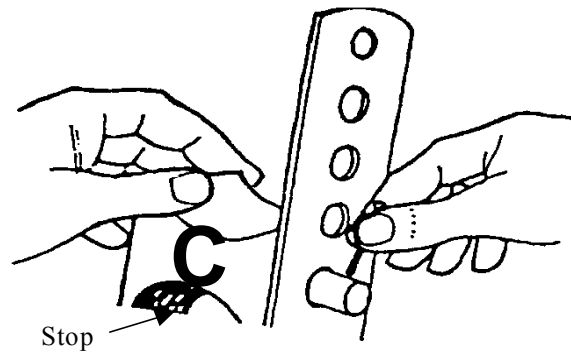

Figure 9.
- Position the stop 'C' in the correct position for size of conduit, see Figure 9.